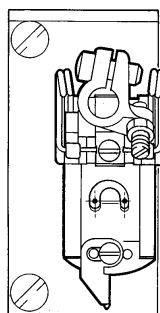

Fig.1
- Before starting the machine, make sure that the presser foot is positioned correctly (turn the machine pulley slowly by hand to see if the needle point is centered in the needle drop hole in the presser foot). (Fig. 1)